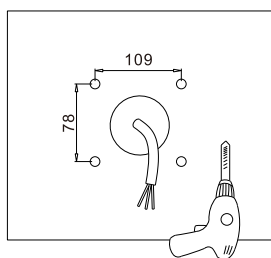

Figure 1-1
- 1.Cut holes on the wall according to locating plate.(Figure 1-1)